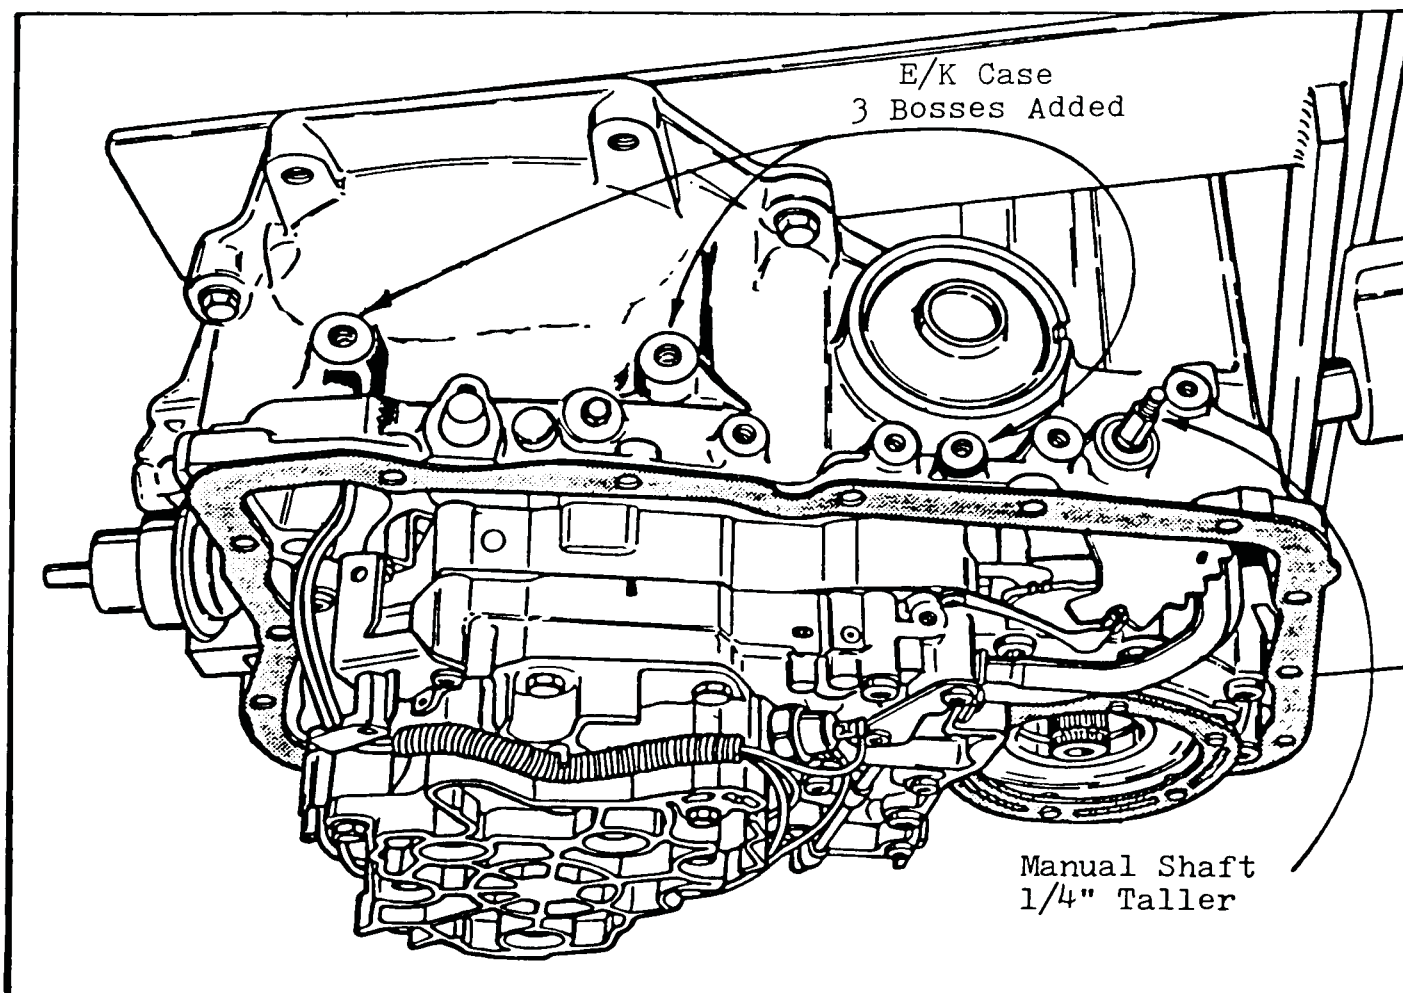

Figure 56
Change: Transaxle Case Assembly - 3 bosses added to transaxle case assembly (See Figures 56 and 57).
- 1) Transaxle Case - 3 bosses added to the case assembly (See Figures 56 and 57). The larger bosses on top of the case are for mounting purposes in the "E" and "K" bodies only. The smaller boss is for fuel line bracket in the "E" and "K" bodies only (See Figure 56). We can immediately see why it is called the E/K case.